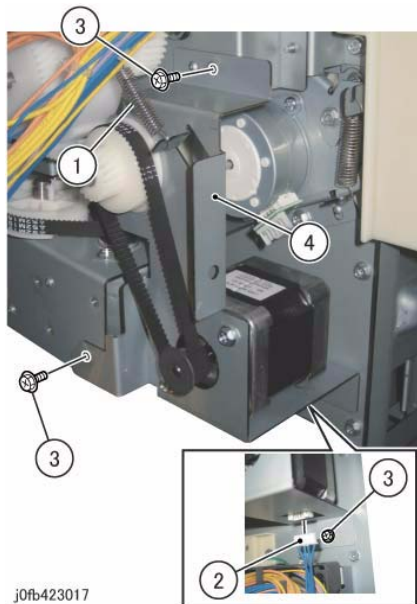

Figure 10 Transport Motor
13. Remove the Transport Motor Assembly. (Figure 10)